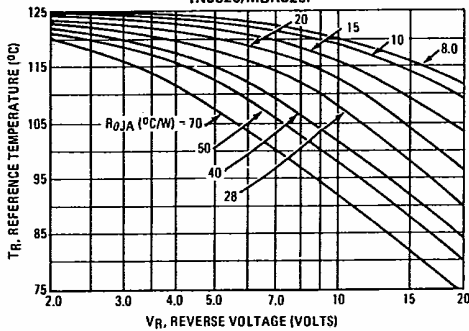

FIGURE 2 - MAXIMUM REFERENCE TEMPERATURE
Step 2. Find T_R from Figure 2. Read $T_R = 108^\circ\text{C}$ @ $V_R = 9.2 \text{ V}$ and $R_{\theta JA} = 40^\circ\text{C/W}$.